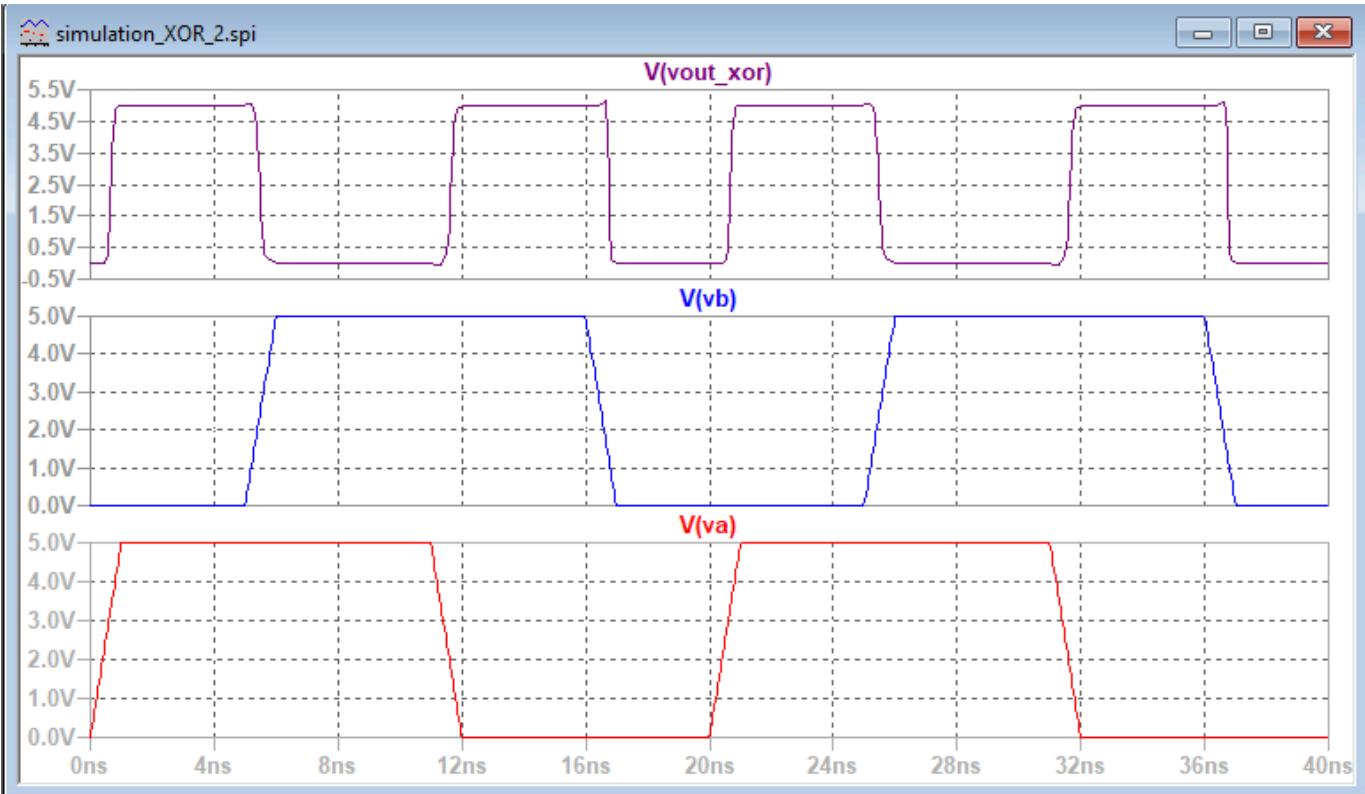

Figure 3.5: 2-Input XOR Gate Truth Table Simulation
- Figure 3.5 validates the functionality of our XOR gate through simulation. The simulation of the XOR gate matches the truth table above.